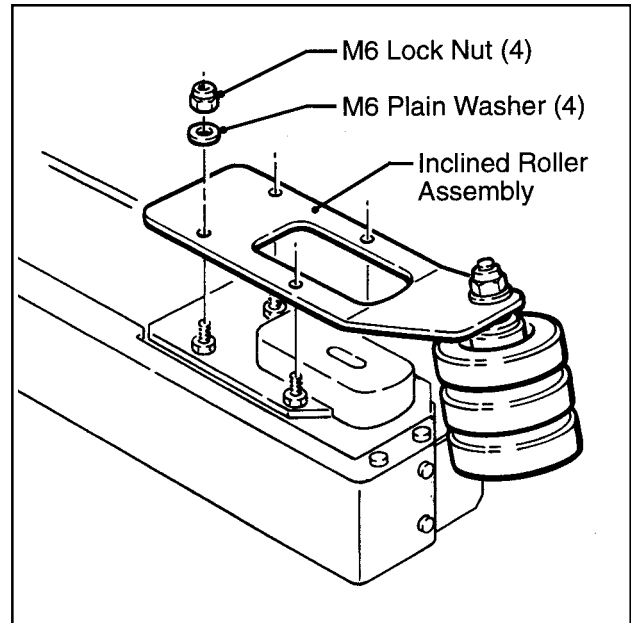

Figure 2-1 – Roller Installation
4. Install inclined rollers onto infeed end of each drive belt assembly. Remove M6 lock nuts (4) and M6 plain washers (4) from each drive assembly, position inclined roller on each drive assembly and fasten with M6 plain washers and M6 locking nuts. See Figure 2-1.